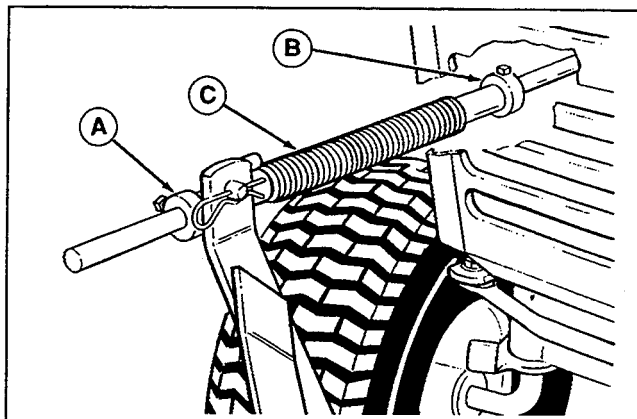

Figure 17. Lift Rod Adjustment
See Figure 17. For initial setting, place front set collar (A) one inch from rod guide with blade fully lowered. Place rear set collar (B) against spring (C). Tighten the setscrews in the two set collars. To adjust, perform the following: